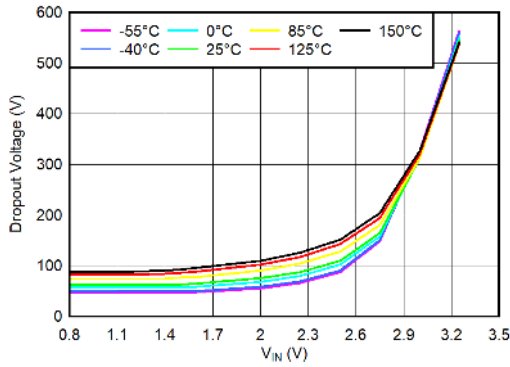

Figure 6-29.  $V_{IN}$  Dropout Voltage vs  $V_{IN}$  and Temperature ( $T_J$ ) for  $I_{OUT} = 1.5 \text{ A}$
- (1) Adjustable devices tested at 0.8 V; resistor tolerance is not taken into account.
(2) Dropout is defined as the voltage from  $V_{IN}$  to  $V_{OUT}$  when  $V_{OUT}$  is 3% below nominal.
(3) 3.25 V is a test condition of this device and can be adjusted by referring to Figure 6-29.